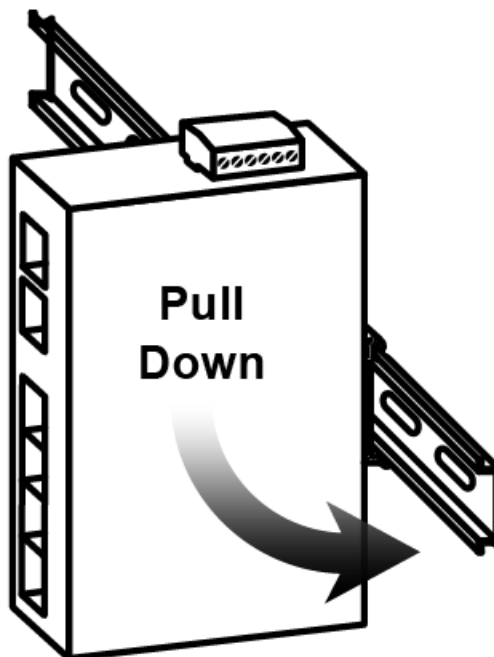

Figure 3.3: Stable the Switch on DIN-Rail
Step 4 Lightly pull down the bracket on to the rail as shown below in Figure 3.3.